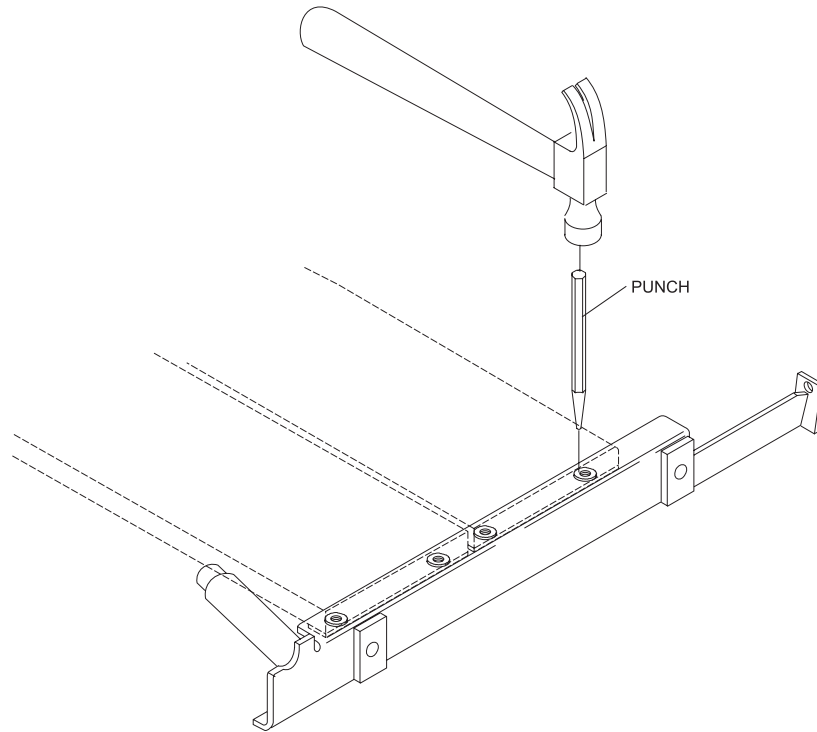

Figure 3
1. Remove the damaged T-band board nut with a punch. Refer to Figure 3.